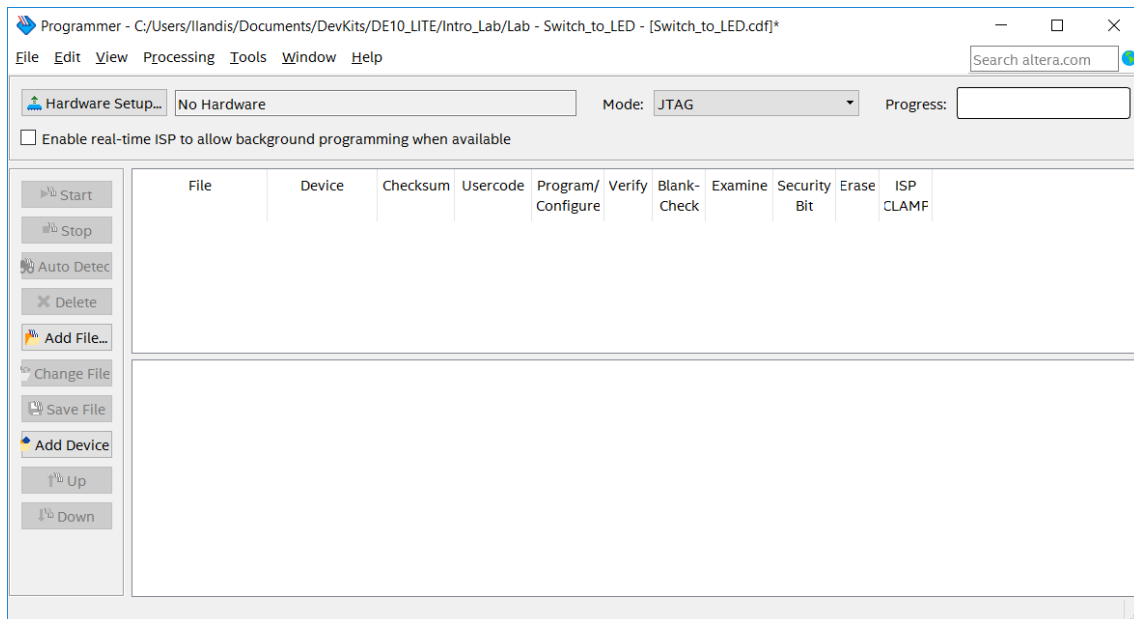

Figure 17: The Programmer window
- ❑ Return to Quartus Prime and click on  to open the Programmer. This button is located at the top of the main Quartus window. A screen similar to the one seen in Figure 17 below should appear.